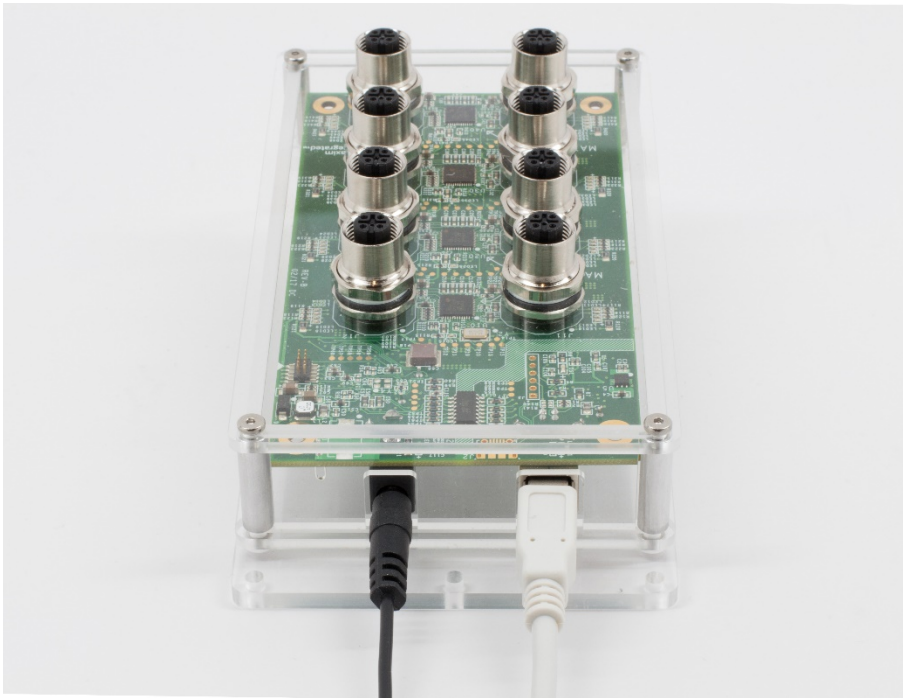

Figure 4. Connect the Power and USB cables to MAXREFDES145# and then connect it to the PC.
4. Connect the 24V Power-Supply, then connect the USB cable from the PC to the MAXREFDES145# as shown in **Figure 4**.